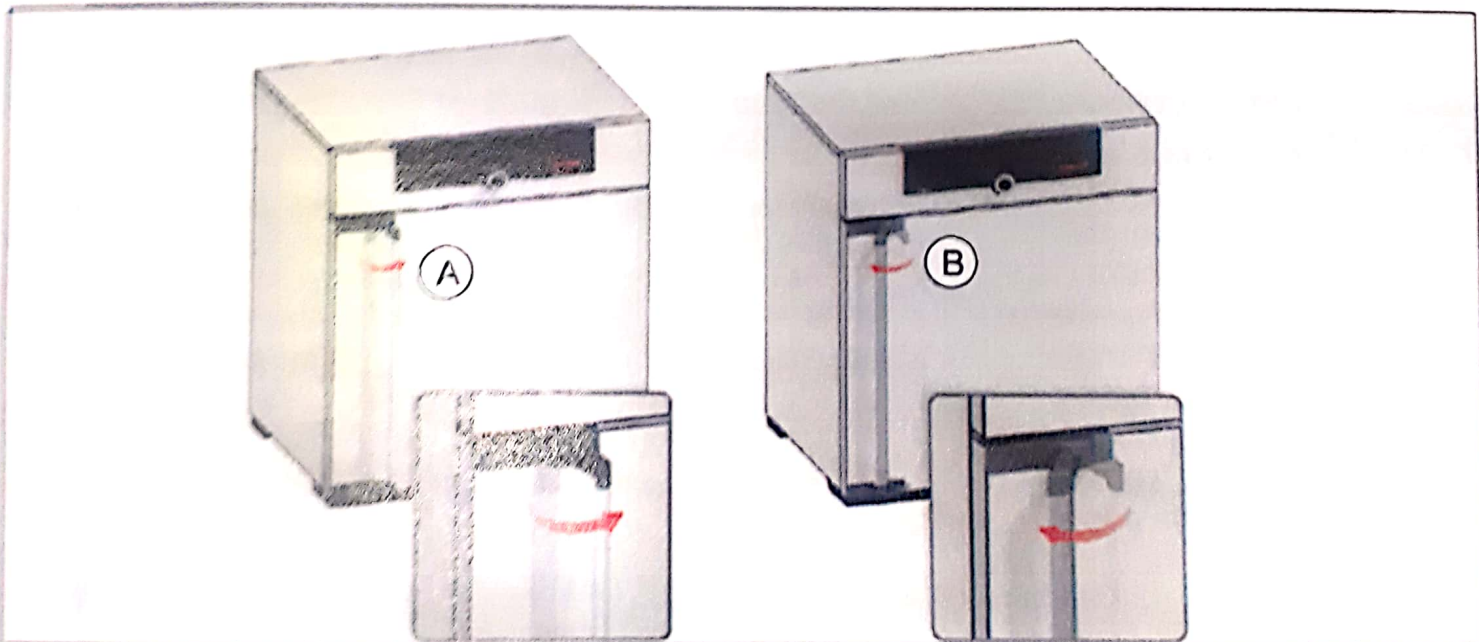

Fig. 11 Opening and closing the door
- ▶ To open the door, pull the door handle to the side (to the left or to the right, depending on the door variation, see Fig. 11, A) and open the door completely.
- ▶ To close the appliance, push the door closed and the door handle to the side (B).